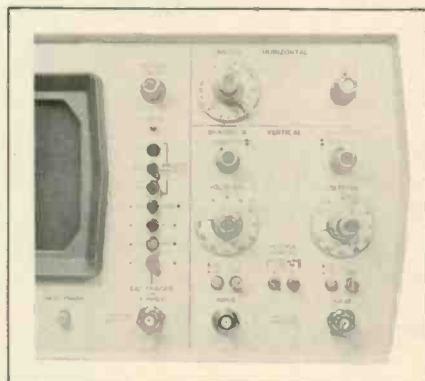
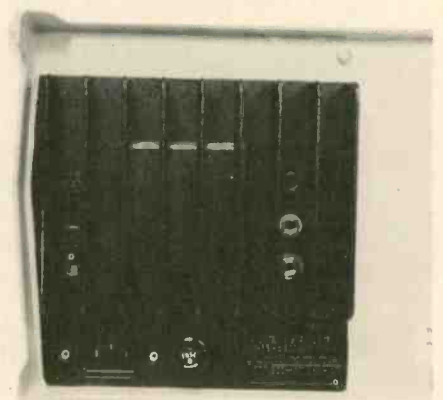

Fig. 1—Close-up view of the most frequently used operating controls of the Model 1220 scope.
Fig. 2—Close-up view of rear panel of Model 1220.
**Logical grouping of color-coded controls and inputs**—As revealed by Fig. 1, the operating controls and BNC-type inputs of the Model 1220A are arranged in a manner which makes it easier for the technician to learn and remember the panel positions and functions of each. For example, the BNC-type input and controls which relate to the triggering function are arranged vertically along the right side of the CRT and, in addition, the trigger-related controls are colored green, for quick "eye-identification." Controls and inputs which are used less frequently are on the back of the instrument, as shown in Fig. 2.